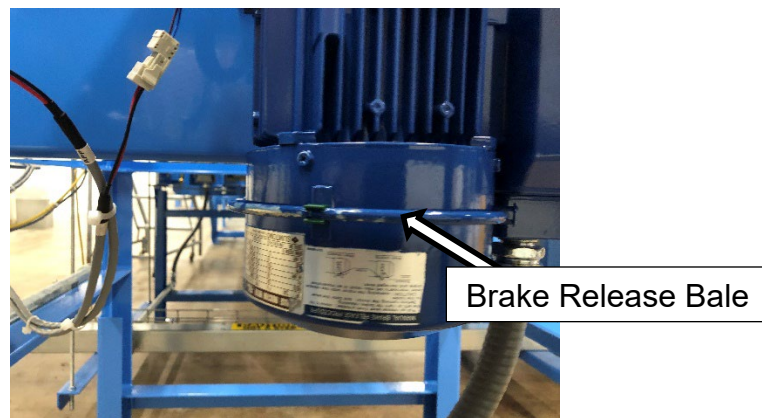

Figure 13. Brake Bale Centered in Detent
14. Center the bale and push it into the detent (Figure 13).